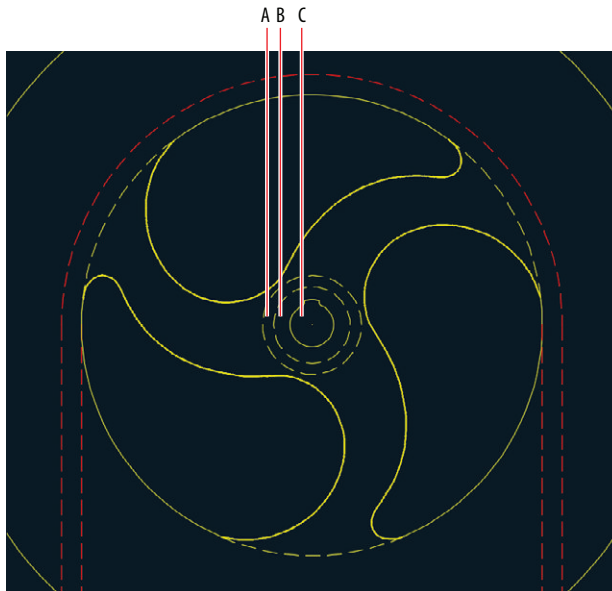

FIGURE 8.2 Picking a point to detect a boundary
2. Click the Hatch tool in the Draw panel on the ribbon's Home tab. Click point A in Figure 8.2.
8. Type **H** (for Hatch), and press Enter. Click point B in Figure 8.2.
11. Press the spacebar to repeat the last command. Click point C in Figure 8.2.